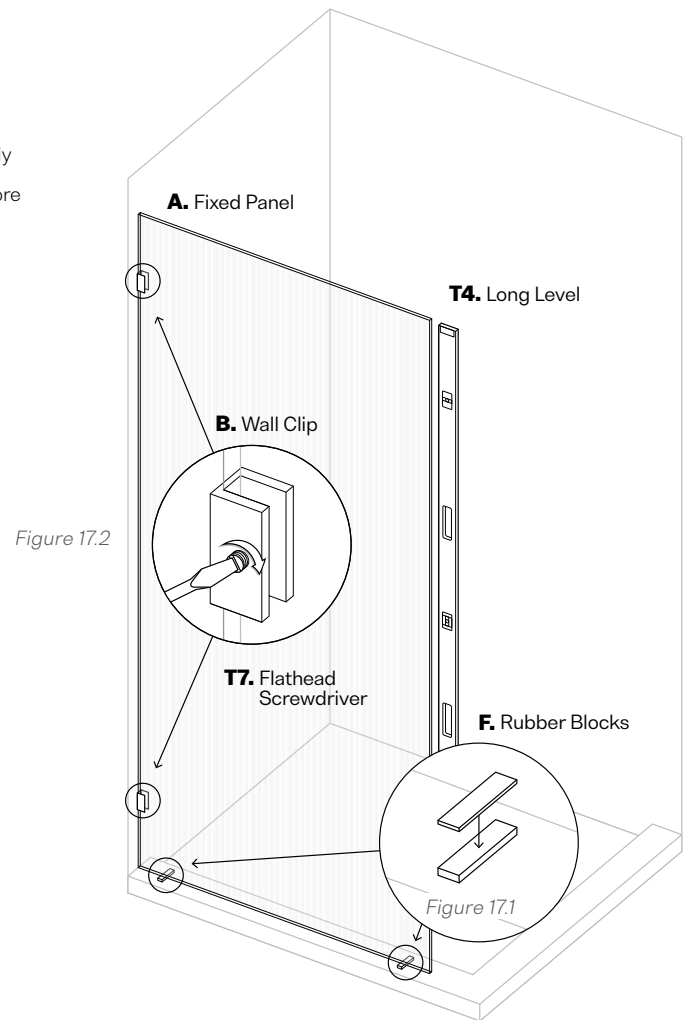

Figure 17.2
- Tighten grub screws in Wall Clips (B.) to secure the Fixed Panel (A.) in place (Fig 17.2).